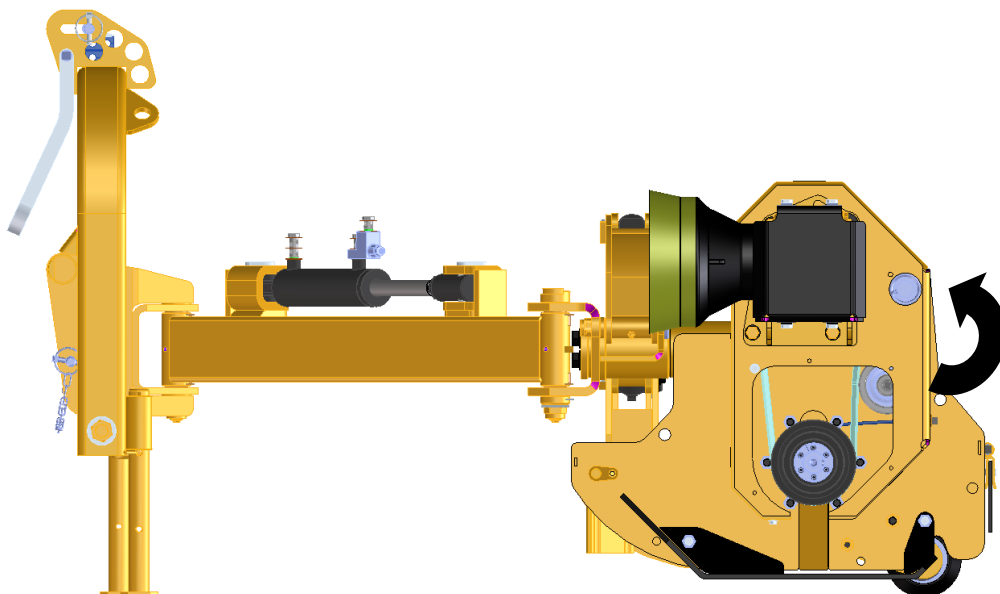

Figure 52
2. After replacing the spring or any other damaged part, take the tensioning unit (figure 49) and place it on the side of the mulcher, inserting the hex bolt 30 as shown in figure 52;